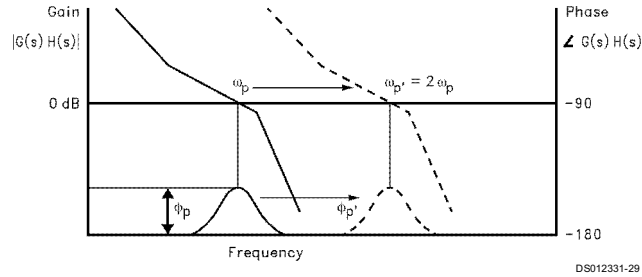

FIGURE 4. Open Loop Response Bode Plot
A plot of the magnitude and phase of $G(s)H(s)$ for a stable loop, is shown in *Figure 4* with a solid trace. The parameter ϕ_p shows the amount of phase margin that exists at the point the gain drops below zero (the cutoff frequency ω_p of the loop). In a critically damped system, the amount of phase margin would be approximately 45 degrees.
If we were now to redefine the cut off frequency, ω_p' , as double the frequency which gave us our original loop bandwidth, ω_p , the loop response time would be approximately halved. Because the filter attenuation at the comparison frequency also diminishes, the spurs would have increased by approximately 6 dB. In the proposed Fastlock scheme, the higher spur levels and wider loop filter conditions would exist only during the initial lock-on phase—just long enough to reap the benefits of locking faster. The objective would be to open up the loop bandwidth but not introduce any additional complications or compromises related to our original design criteria. We would ideally like to momentarily shift the curve of *Figure 4* over to a different cutoff frequency, illustrated by the dotted line, without affecting the relative open loop gain and phase relationships. To maintain the same gain/phase relationship at twice the original cutoff frequency, other terms in the gain and phase *Equations (5), (6)* will have to compensate by the corresponding “ $1/\omega$ ” or “ $1/\omega^2$ ” factor. Examination of *Equations (3), (4), (6)* indicates the damping resistor variable $R2$ could be chosen to compensate the “ ω ” terms for the phase margin. This implies that another resistor of equal value to $R2$ will need to be switched in parallel with $R2$ during the initial lock period. We must also ensure that the magnitude of the open loop gain, $H(s)G(s)$ is equal to zero at $\omega_p' = 2\omega_p$. K_{VCO} , K_ϕ , N , or the net product of these terms can be changed by a factor of 4, to counteract the ω^2 term present in the denominator of *Equations (3), (4)*. The K_ϕ term was chosen to complete the transformation because it can readily be switch between 1X and 4X values. This is accomplished by increasing the charge pump output current from 1 mA in the standard mode to 4 mA in Fastlock.